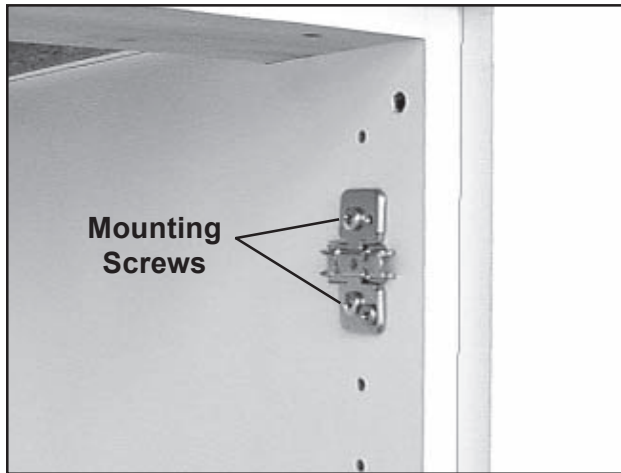

Figure 16. Door Hinge Mounting Plate
3. With a Phillips screwdriver, remove the two screws on the hinge mounting plate and remove the plate from the cabinet wall (Figure 16).